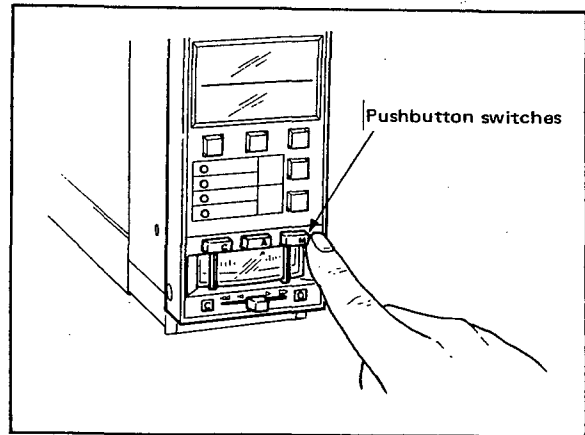

Figure 5-4-4. Transfer between Control Modes.
The control mode of the controller can be changed freely by depressing the C/A/M pushbutton switches. (Figure 5-4-4). (Note, however, that direct changeover from **M** to **C** modes is not allowed.) Transfer between modes is bumpless, and no balancing operation is required.
- (1) Of the C/A/M mode selector switches, select **M**. (The lamp inside the pushbutton lights.) (Figure 5-4-4).